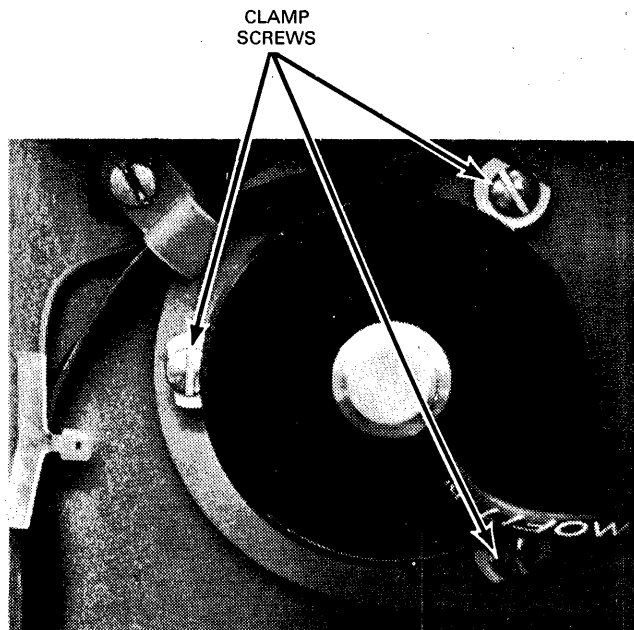

Figure 5-22. Head Position Actuator Clamp Screws (on rear of 651)
5. Loosen three screws in head position actuator housing-to-baseplate clamps sufficiently to permit housing rotation (Figure 5-22).